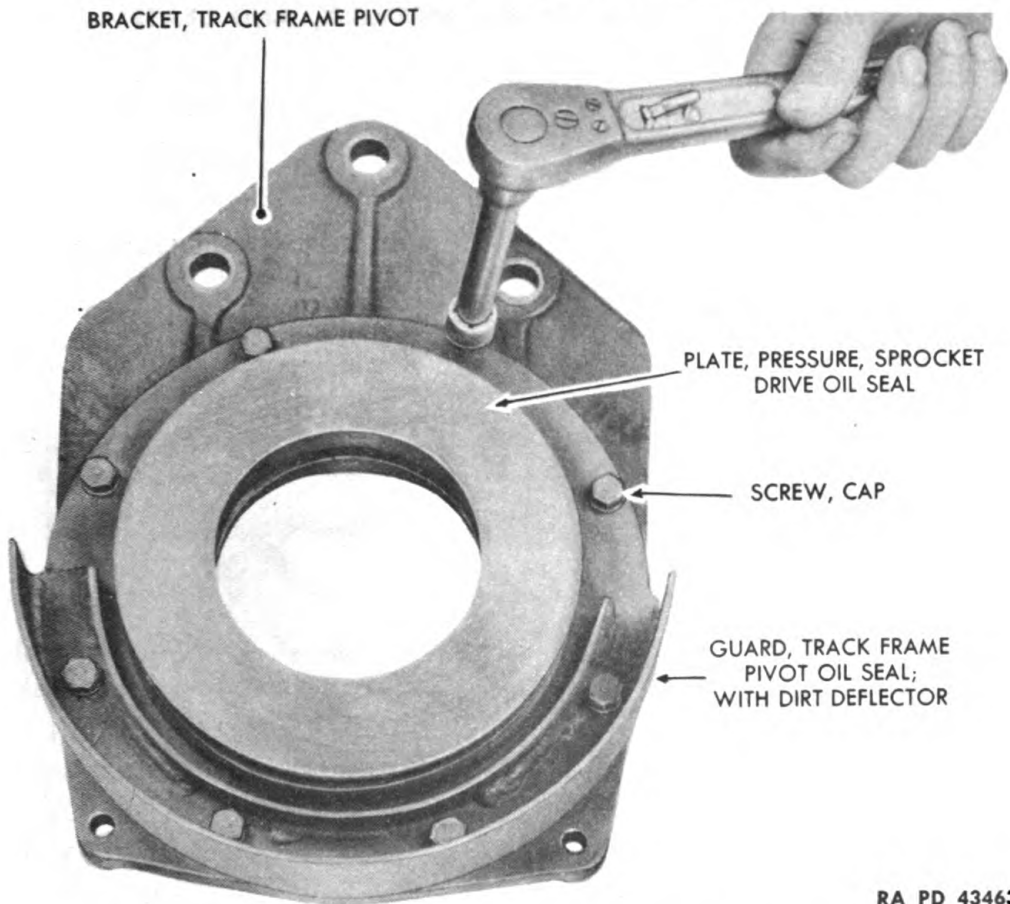

Figure 128 — Track Frame Pivot Bracket Disassembly
(2) **DISASSEMBLE TRACK FRAME PIVOT BRACKET** (figs. 128 and 129).
(2) INSTALL TRACK FRAME PIVOT BRACKET (figs. 128 and 129).